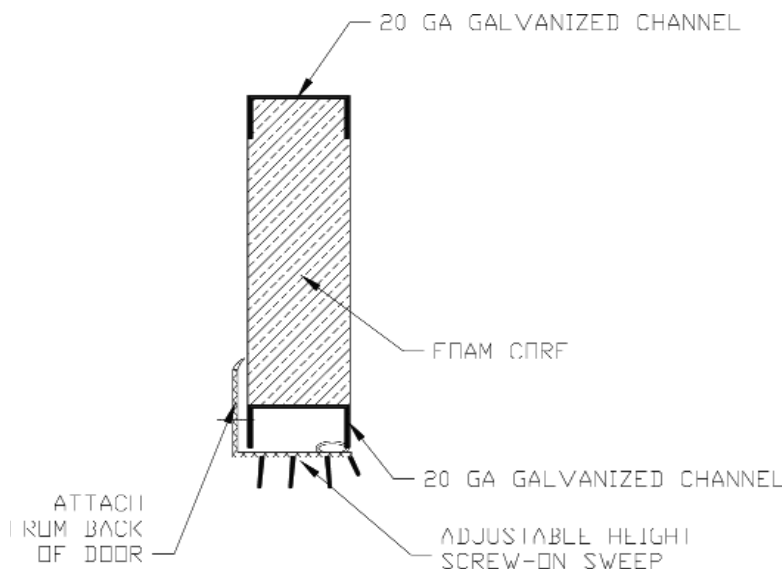

figure 2
- 4) Following the instructions provided by the new door bottom sweep's manufacturer, install the new door bottom sweep onto the bottom of the Perma-Door slab with the screws provided. (There may be the need to pre-drill the door slab.) Be sure that the new door bottom sweep comes into tight contact with the bottom of the door slab on the exterior of the door. (see figure 2)